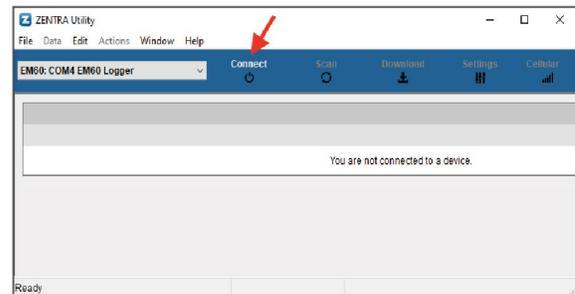

Figure 19. Connect to ZL6 or EM60
3. Open ZENTRA Utility and click on Connect to connect to the ZL6 or EM60 data logger (Figure 19).
4. Select the correct logger from the COM dropdown (Figure 19).
5. On the Menu bar (Figure 19), select Actions > Digital Sensor Terminal.